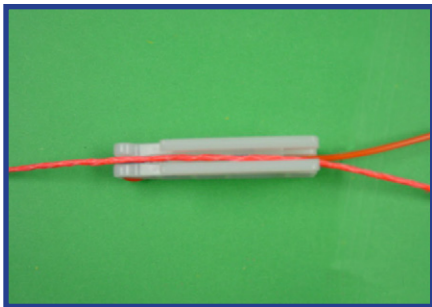

Figure 41 - Step 1, cord in center groove.
1. Place the PRIMACORD 2 in the center groove of the connector block, with about 23 cm (9 in) protruding out the same end of the connector block as the shock tube lead (Figure 41).